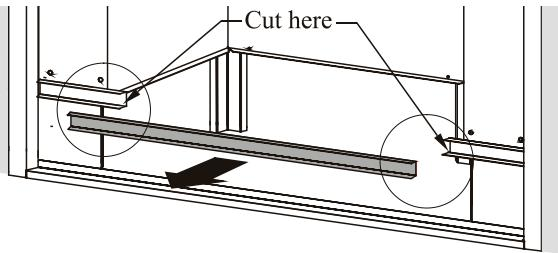

Figure 16. Cutting the front bar.
6. Cut the front bar to allow clearance to install the Heating Insert. Using a hacksaw, make the cut approximately 2" in from the side of the firebox, as shown in figure 16.